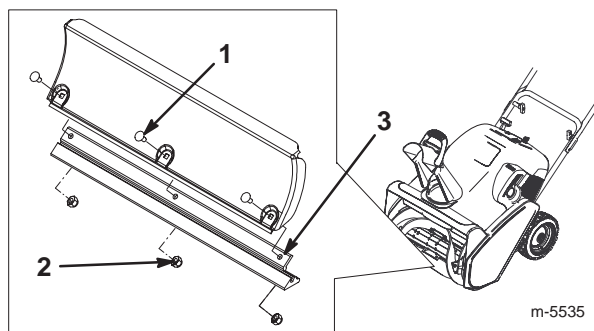

Figure 22
5. Remove the 3 carriage bolts and the locknuts that hold the scraper in place (Fig. 22).